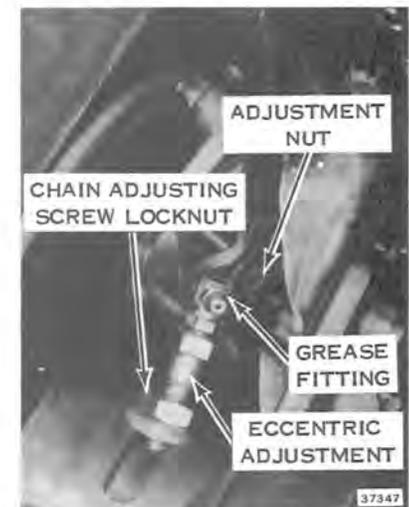

Figure 10-11
1. Loosen adjusting screw locknut (see Figure 10-11).